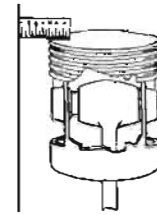

Fig. 7
- G. Be sure lower end of rod is against the stop. Slide piston to the left until right hand piston boss is against the upper end of rod; then bring scale down and take reading from top left edge of piston as shown in Fig. 7. Take rod off and check from other side in the same way. Half the difference of your two readings will be the amount of offset in the rod. To correct offset see paragraph "CORRECTING OFFSET".